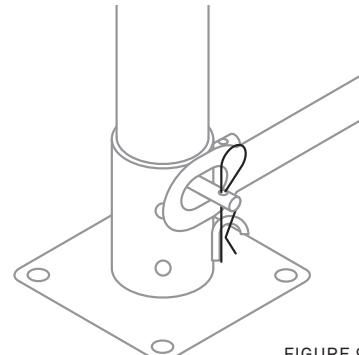

FIGURE 9
- 11.** Slide the tubes of the base frame over the horizontal rod of the base plate. Then place the R-pinas illustrated in figure 9 to prevent the base frame from sliding off the rod.